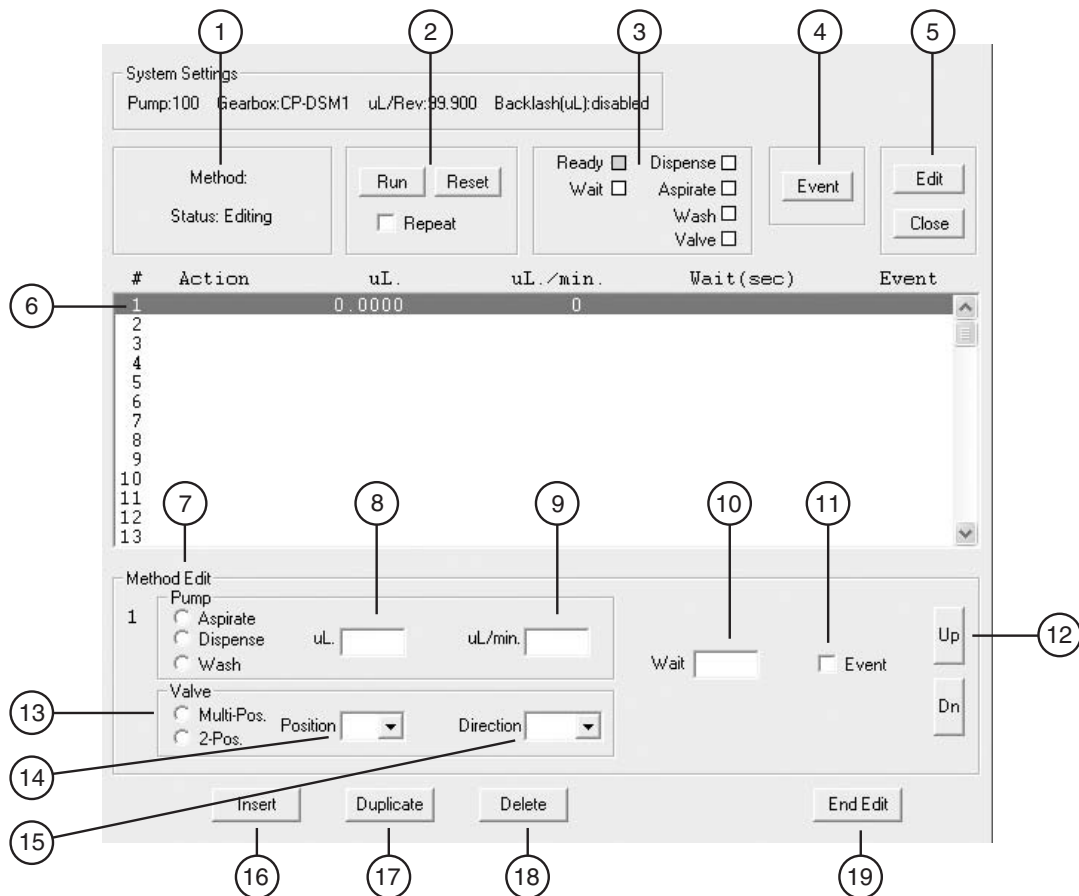

Figure 9: The Method screen
1. From the main menu, choose Method > New to open the screen in **Figure 9** on page 10.